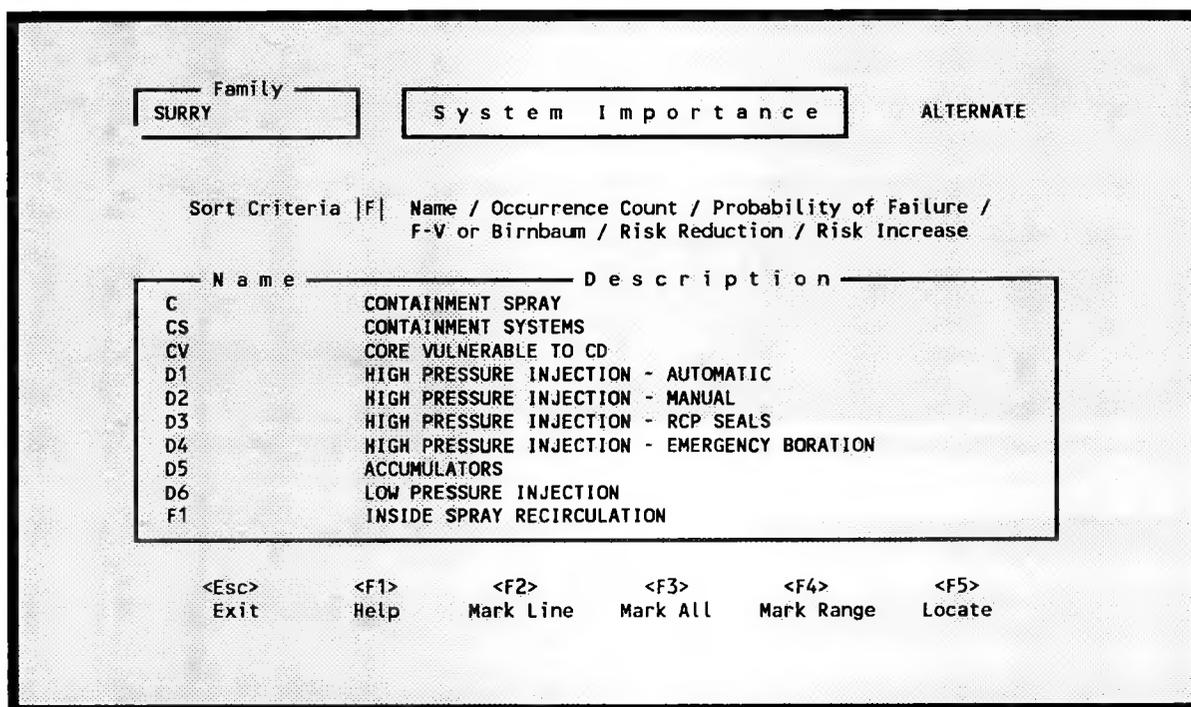

Figure 307. Sort selection screen.
9.5.4.2 Sort Criteria. This option allows you to select the sort order in which to display the System Importance Measures Report. When you invoke this option, Figure 307 will be displayed.